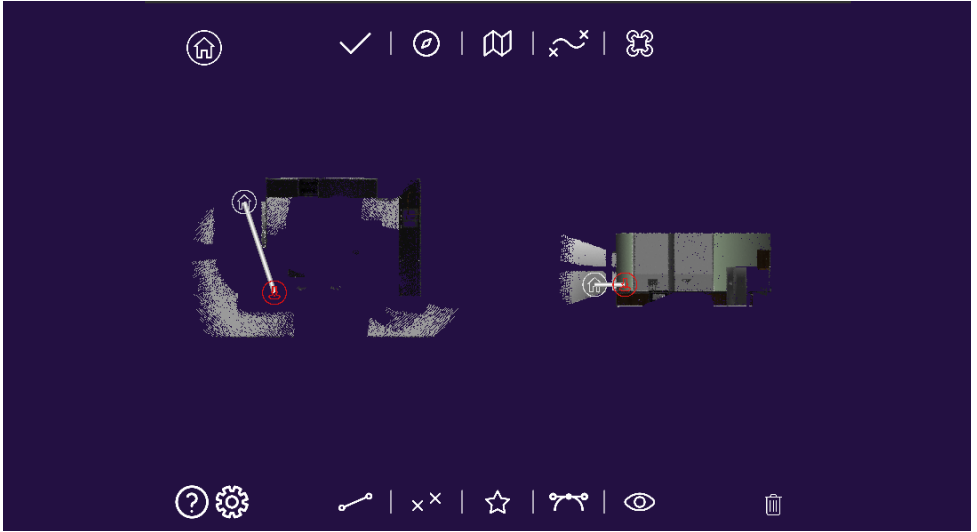

Figure 28. Adding the first key point to the environment map
Each time a point is set on a map, the user can edit it using both graphical windows (see blue hand icon in Figure 28).
1. The last one, the line will be extended (see Figure 28);